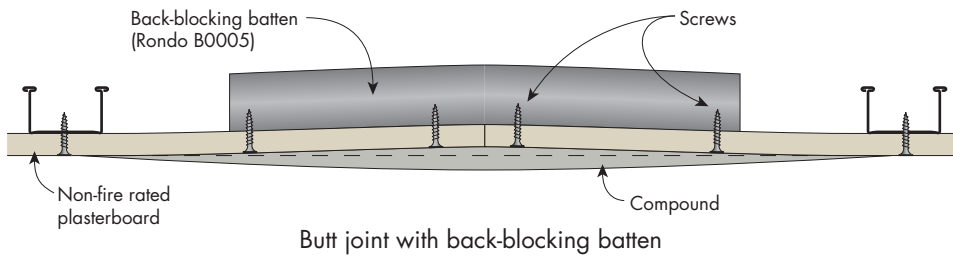
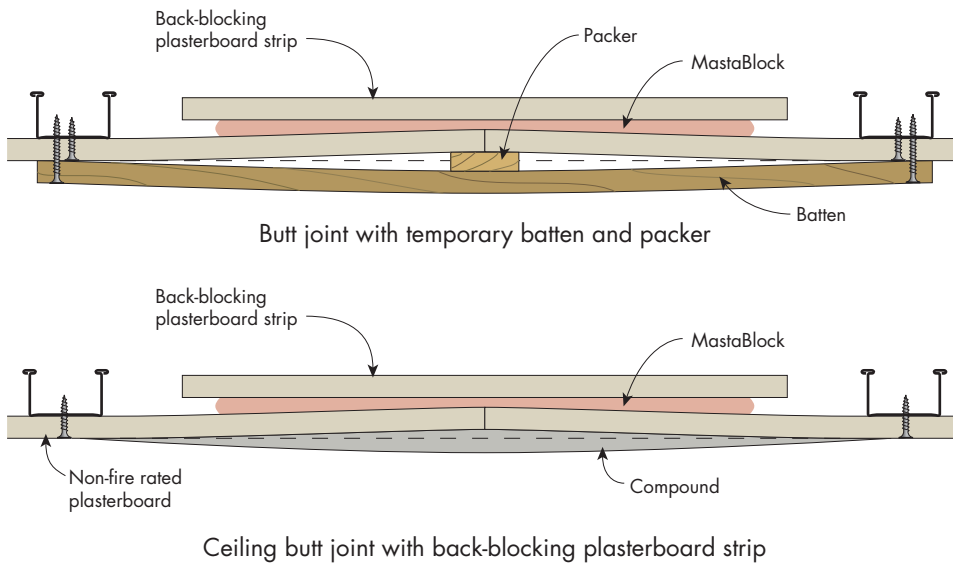

FIGURE 4 Creating a Recess at Butt Joints Using Back-Blocking Battens – Elevation
FIGURE 5 Creating a Recess at a Butt Joint – Elevation
- ▶ Create a recess by using either back-blocking battens as shown in Figure 4 or packers as shown in Figure 5 and 6.